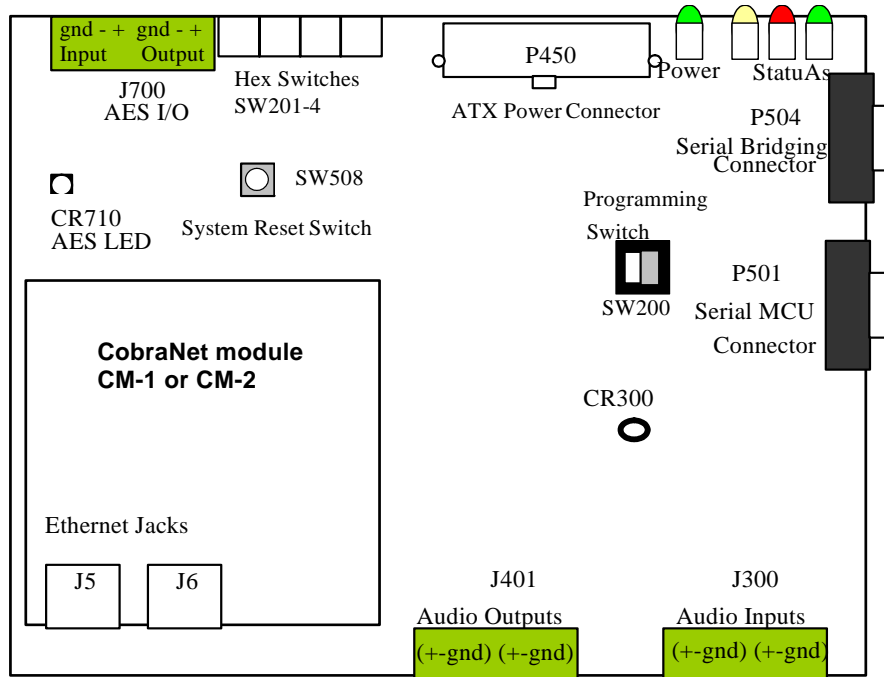
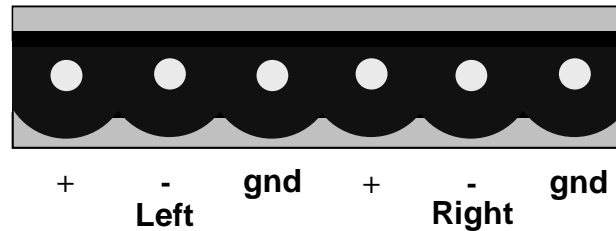
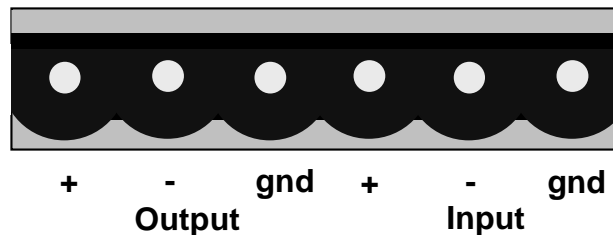

Figure 2. Connector, Switch and Jack Locations
Figure 3. Analog Audio Input and Output Phoenix-style Connectors
Figure 4. AES3 I/O Phoenix-style Connector
- Using the supplied Phoenix connectors, build audio input and output cables and two AES3 cables (if desired). These will be used to connect your audio input and output devices to the EV-2 modules. For analog audio pin assignments, see *Figure 2* or *Figure 3* below. For AES3 pin assignments, see *Figure 4* below.
Audio Input Connector: Phoenix-style connector for two-channel balanced audio input, +14.4 dBu maximum (0 dBFS). Refer to *Figure 3* for the signal connection.
Audio Output Connector: Phoenix-style connector for two-channel balanced audio output, +8.3 dBu maximum (0 dBFS). Refer to *Figure 3* for the signal connection.
AES3 I/O Connector: Phoenix-style connector for an AES3 stream. Refer to *Figure 4* for the signal connection. For the AES3 transceiver to operate properly a valid AES3 signal must be provided at the AES3 input.